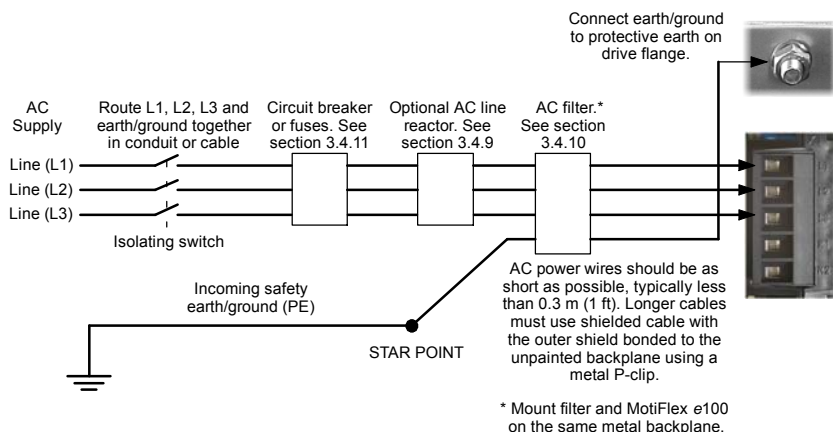

Figure 8 - Three-phase power connections - 1.5 A ~ 16 A models
Connect the supply to L1, L2 and L3 as shown in Figure 8. For CE compliance, an AC filter must be connected between the AC power supply and the MotiFlex e100. If local codes do not specify different regulations, use at least the same gauge wire for earth/ground as is used for L1, L2 and L3. The threaded studs protruding from the top and bottom case flanges can be used as the earth/ground connection (PE).
When a drive is sharing its DC bus, a line reactor must be fitted. This should be connected between the source drive's fuse (or circuit breaker) and the AC input filter (see Figure 8 on page 3-17). See section A.1.3 for further details.